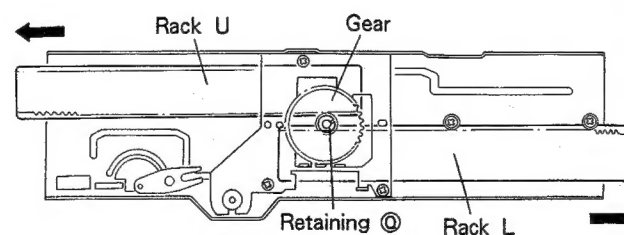

Fig. 3-5
1. As shown in Fig. 3-5, position rack U fully to the left and rack L fully to the right. (When attaching the gear with the tray inserted, set the tray horizontally in a similar manner to the inserted condition. Also, when shifting the rack U and rack L to the position as shown in Fig. 3-5, shift the both racks at the same time. (This is because the mechanism is designed as mentioned in "Relationship between slide angle shaft movement range and tray movement range" on page 71.))
2. Attach the gear and hold in place with retaining ring (Q).